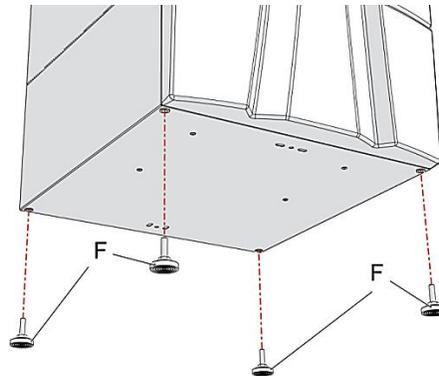

Figure 3-7: Installing the Leveling Feet
- While unit is suspended, install the leveling feet “F” (Figure 3-7), to allow leveling the unit after installation.